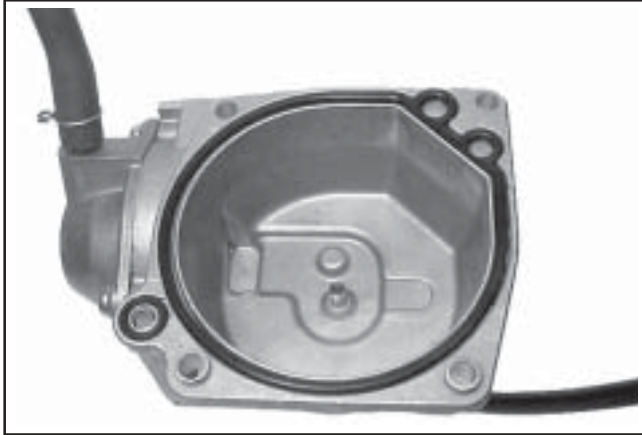

Figure 5-26. Installing Fuel Bowl O-Rings.
14. When the proper float height is obtained, carefully install the new O-Rings for the fuel bowl and the accelerator pump transfer passage (if so equipped). See Figure 5-26.